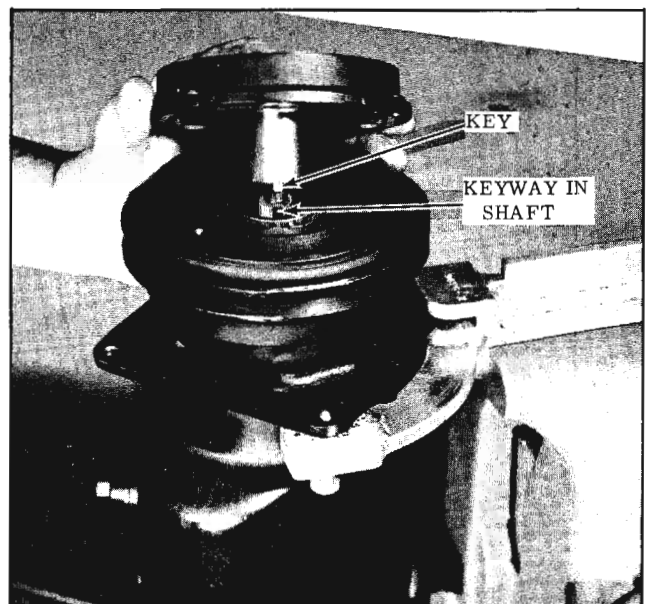

Fig. 15-44 Aligning Driven Plate Key
2. Line up the key in the hub with keyway in the shaft. (Fig. 15-44)